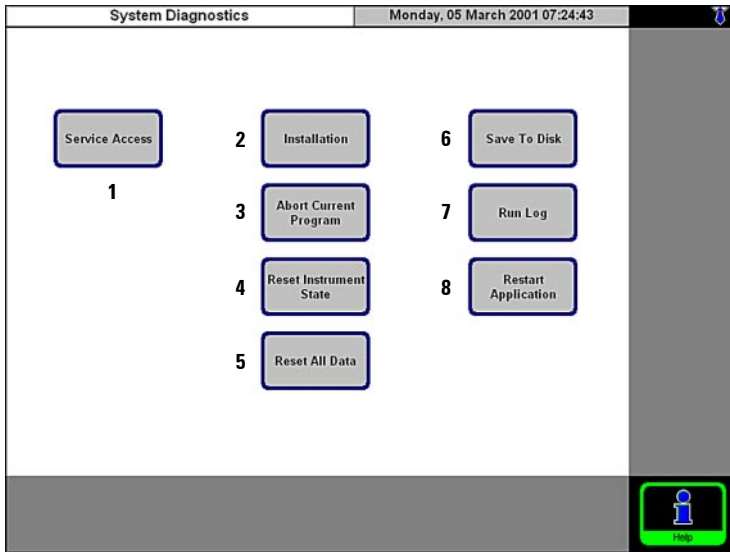

Fig. 8
- After initialization, the **FAVORITES** screen will be displayed (Fig. 8).